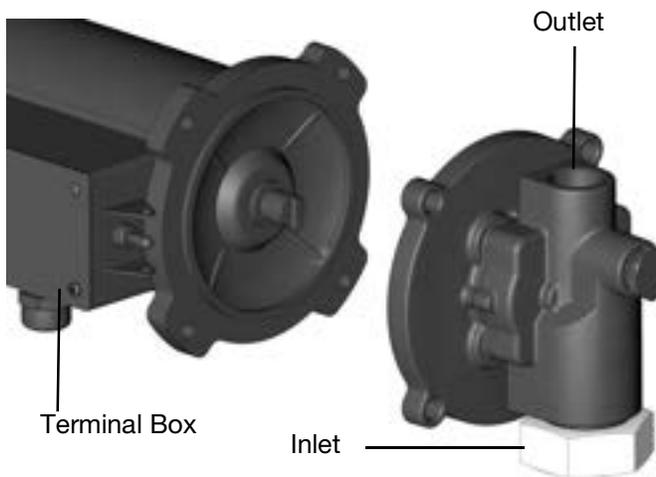

FIG. 15
6. The motor terminal box should be positioned between the pump outlet and inlet (FIG. 15).